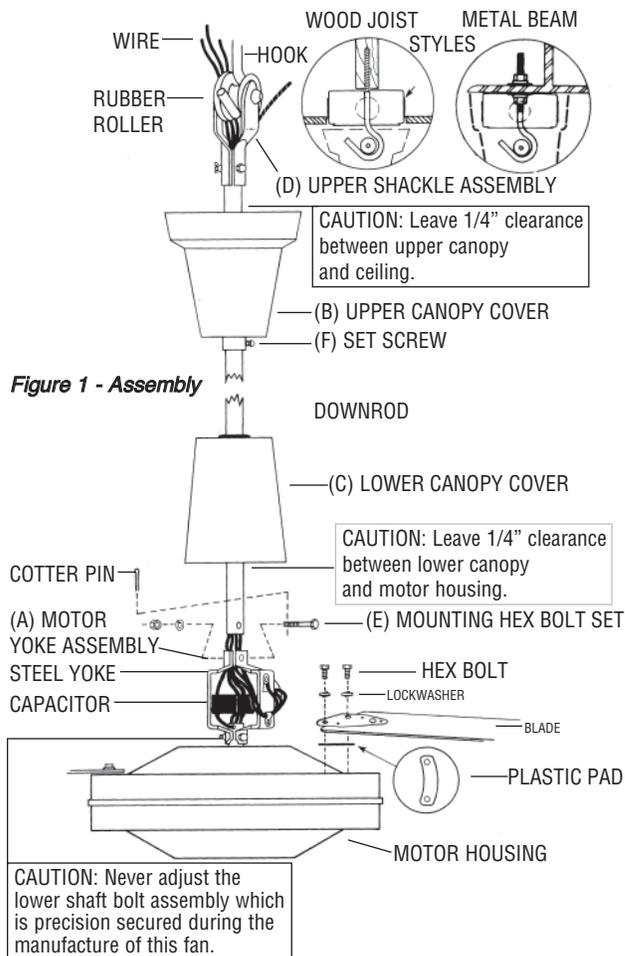

Figure 1 - Assembly
2. At the motor yoke assembly (A), remove the cotter pin and loosen the hexagon nut. Carefully remove spring washer and the hexagon screw (E). *(See Figure 1)*
3. Slide the upper canopy cover (B) (bell shaped) up the rod. Slide the lower canopy cover (C) up to rod.
4. Feed the three wires and the safety cable through the center hole in the steel yoke connecting piece above the motor (A) and then continue feeding wires and cable through the downrod until the wires and cable come out at the upper shackle end (D).
5. Mount the downrod to the yoke (A) and replace the hexagon screw. Secure the spring washer hexagon nut and spread the cotter pin.
CAUTION: Blades must be fastened to the motor as shown in Figure 1. DO NOT reverse blades when installing.